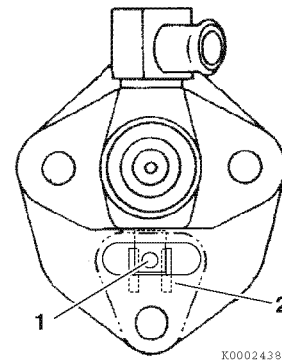
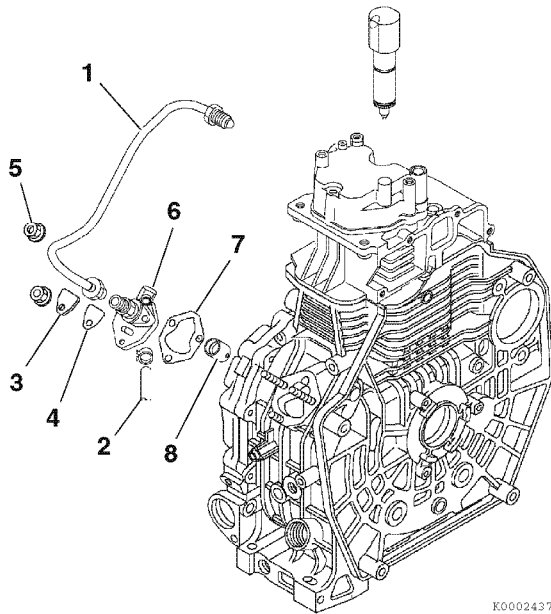

Figure 7-18
Figure 7-19
3. Install the original fuel injection pump shim(s) (7, **Figure 7-19**).
4. Install the fuel injection pump (6, **Figure 7-19**) into the crankcase, ensuring that the fuel injection pump lever pin (1, **Figure 7-18**) is engaged in the governor lever fork (2, **Figure 7-18**).
5. Install the two side mounting nuts (5, **Figure 7-19**) and tighten to specification. *See Special Torque Specifications on page 7-4.*
*Note: If the original fuel injection pump, camshaft and injection pump tappet (8, **Figure 7-19**) are being reused, you do not need to recheck the fuel injection timing. If any of these components have been replaced, it will be necessary to check the fuel injection timing. See Checking and Adjusting Fuel Injection Timing on page 7-10.*
6. Install the inspection cover (3, **Figure 7-19**), gasket (4, **Figure 7-19**) and nut. Tighten to specification. *See Special Torque Specifications on page 7-4.*
7. Install the fuel injection high-pressure fuel injection line (1, **Figure 7-19**). Tighten the nuts to specification. *See Special Torque Specifications on page 7-4.*
8. Install the fuel supply line (2, **Figure 7-19**).